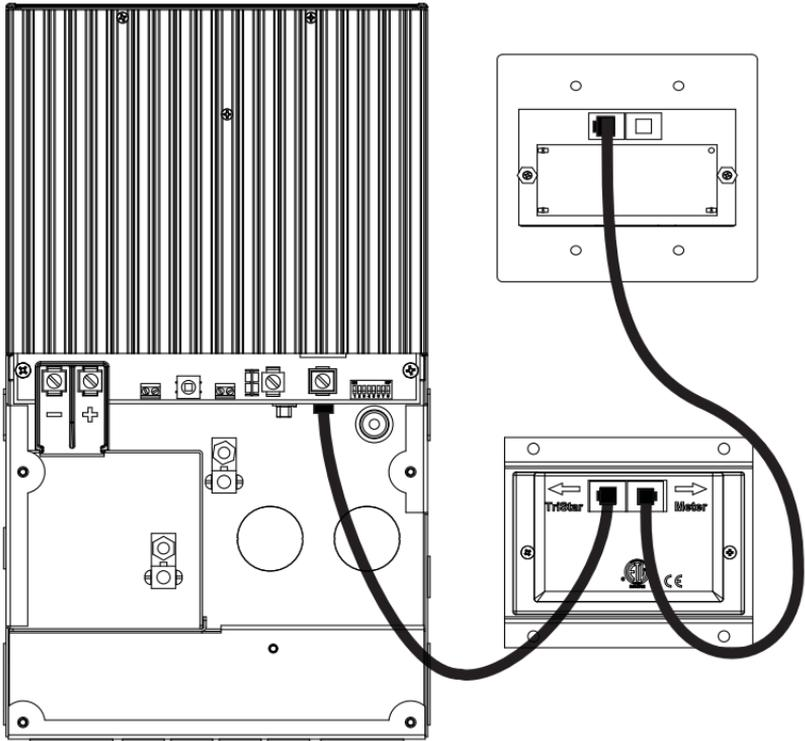

Figure 3-2. TS-M-2-600V and TS-RM-2 Meter Connections
2. Use a 7mm nut-driver to remove the existing blank meter panel. Retain the (4) nuts.
3. Position the TS-M-2-600V mounting plate onto the screws behind the meter window, and secure using the (4) nuts retained in Step 2.
5. If adding a TS-RM-2, route the supplied RJ-11 cable into the wiring box through a knock-out. Connect the cable to the TS-M-2-600V socket labeled “Meter”. Looking at the back of the remote meter, connect the other end of the cable to the left socket - see Figure 3.2 on page 15.
7. Verify that the RJ-11 wires are properly contained within the wiring box, and that the wiring has no pinch points. Then replace the wiring box cover and secure with the (4) existing cover screws.